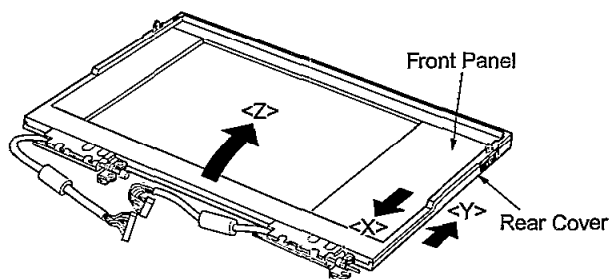

Figure 26
- (4) Sufficiently slide the Front Panel in the direction of the arrow <X> and slide the Rear Cover in the direction of the arrow <Y> alternately as shown in Figure 26.
- (5) Raise the Front of the display panel in the direction of the arrow <Z> and remove it as shown in Figure 26.
- (6) Turn over the Front panel and remove four screws ($\text{Ø}2 \times 3 \text{ mm}$).
- (7) Detach the cables for FL inverter and LCD control from CN2 and CN1.
- (8) Remove the LCD from the Front Panel.